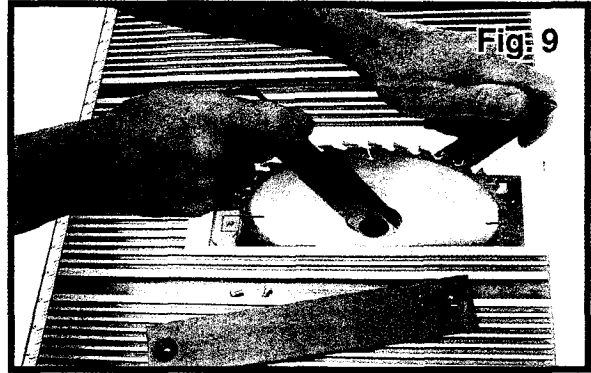

Fig. 8
3. Raise the blade arbor in Fig. 8 to the maximum height by turning the blade raising hand wheel counterclockwise.